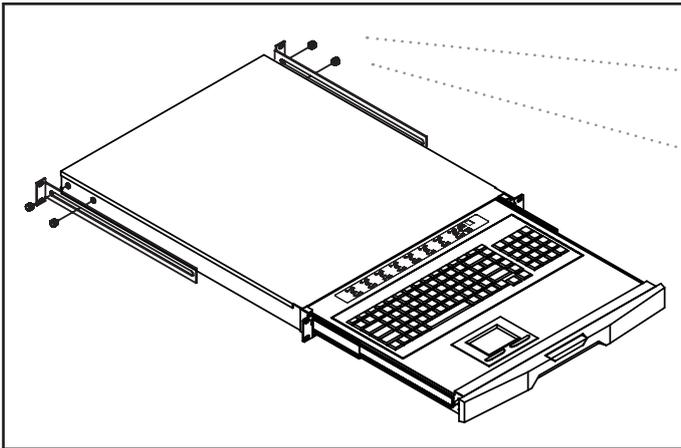

Figure 1. Installing the rear L-bracket to the keyboard drawer.
- Install each rear L-bracket using two fasteners shown in **Figure 1**.